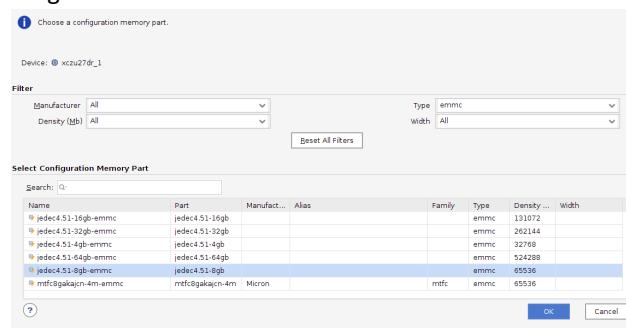

Figure 29. Select eMMC
4. Select “*jedec4.51-8gb-emmc*” as can be seen on Figure 29.